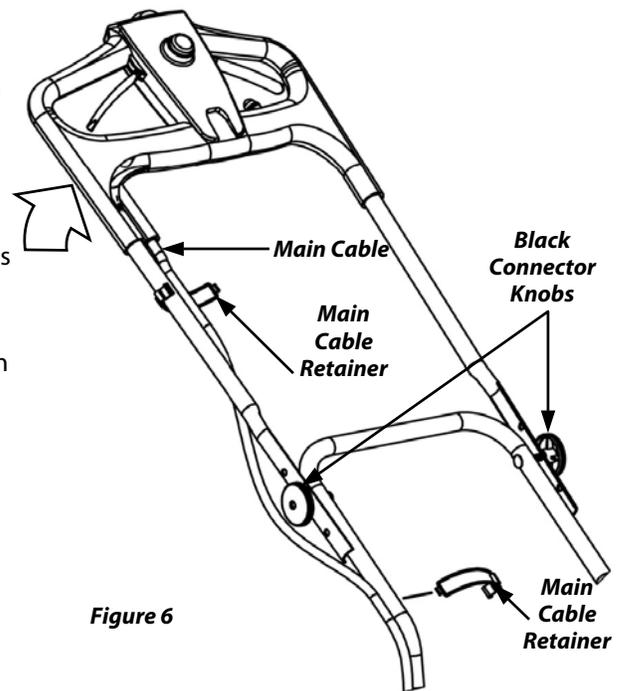
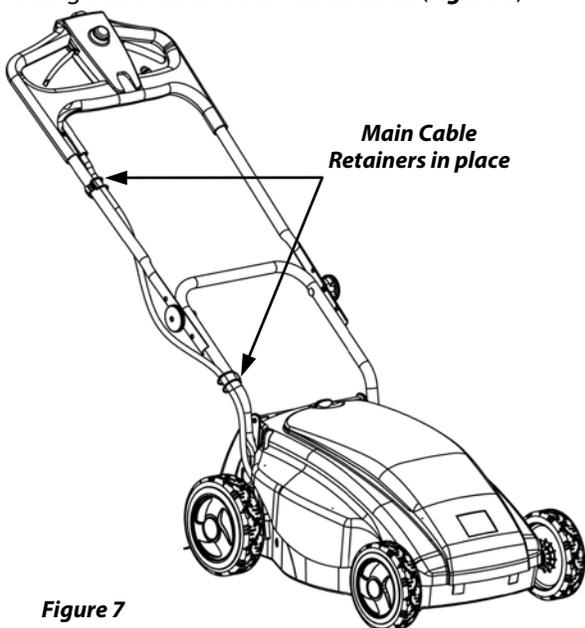

Figure 6
Figure 7
4. Swing the Upper Handlebar Assembly into an upright position so that the Upper and Lower Handlebars line up and slide into place (**Figure 6**). Tighten the black Connector Knobs by hand until they are snug.
6. Position the Main Cable along the Handlebars (**Figure 6**) and secure it in place by holding the two (2) Main Cable Retainers in place while stretching the rubber strap around the Cable, and securing it into the Hook on the Retainer (**Figure 7**).